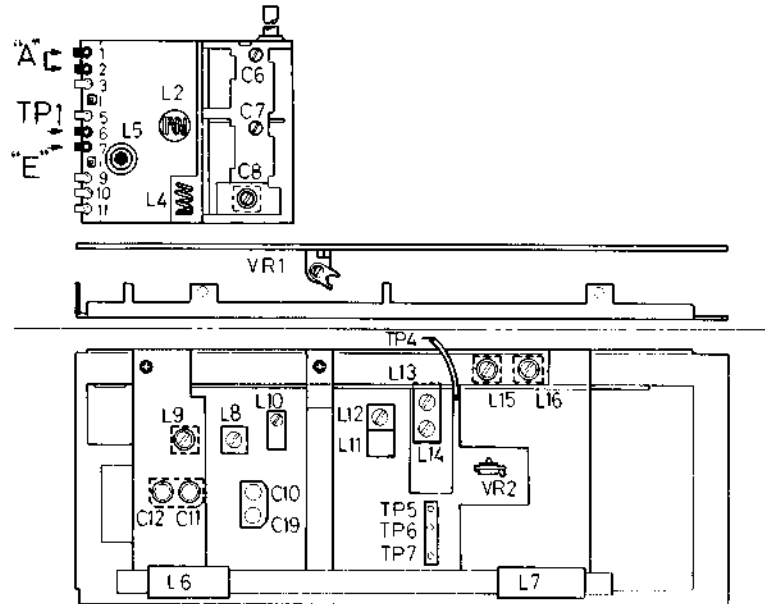

Fig. 10
AM IF & RF ALIGNMENT (Refer to Fig. 10)
3. Connect the clip of the TV. sweep generator's IF/VF OUTPUT lead to the test point TP1 and the other clip to the "E" (Refer to Fig. 10).
5. Connect the V. INPUT terminal to the test point TP4 (Refer to Fig. 10).
FM MPX ALIGNMENT (Refer to Fig. 10)